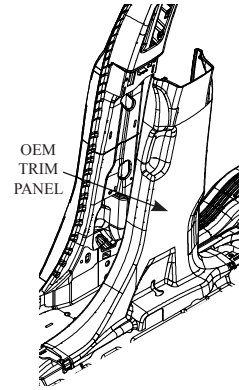

FIG. 12A
- C. Orientate the B-Pillar bracket so the locating tab fits into the Oval Pocket on the vehicle B-Pillar and the formed locating flanges wrap around the vehicle B-Pillar. Push over and up on the Bracket until the locating tab is at the top of the pocket and the flanges are tight against the vehicle B-Pillar edge. Insuring that the bracket is located correctly, using the supplied Self-Drilling screws (3X162) secure the B-Pillar bracket to the vehicle B-Pillar. (See Fig. 12A & 12B) Repeat on the Driver-side.